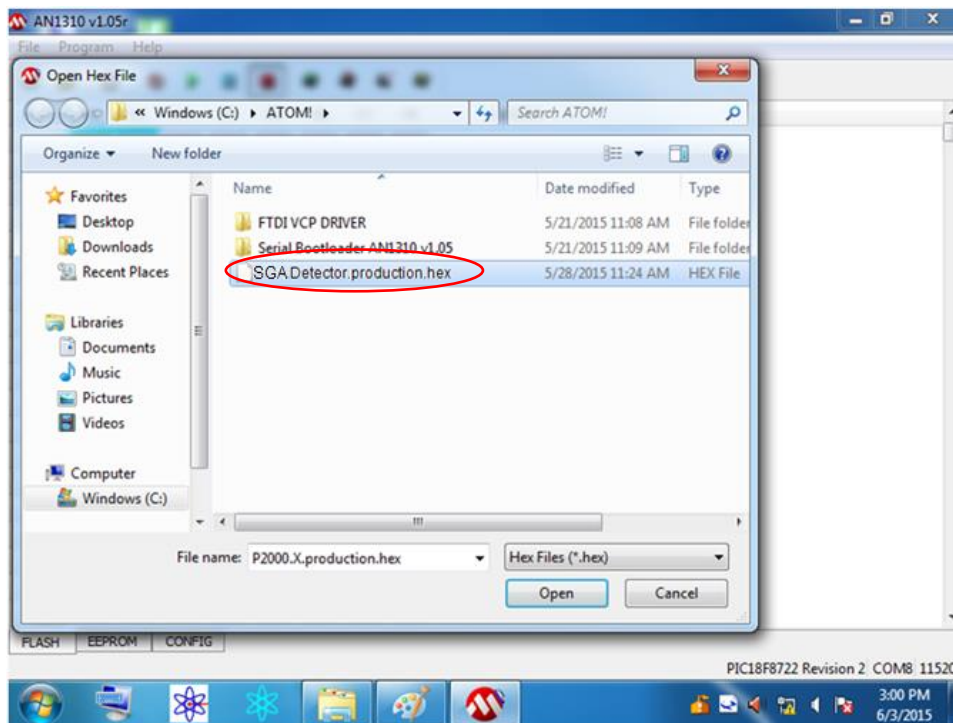

Figure 3.18
- 7. Select the **SGA-detector.production.hex** file located in **C:\ATOM!** directory and click **Open** (Figure 3.18). *(The detector HEX file is same for both SGA and SLA applications)*